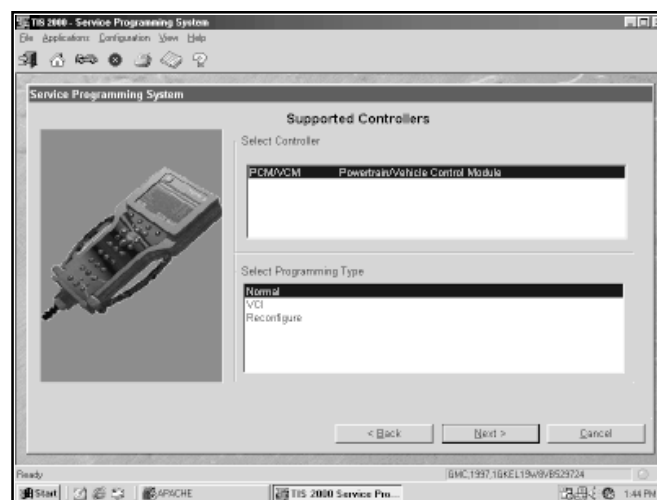

Figure I-34, Identify Controller
11. The PC will display a screen asking you to select the type of programming to be performed: normal or VCI (Figure I-34). Select Next. If you select VCI, a series of screens will direct you through the process.